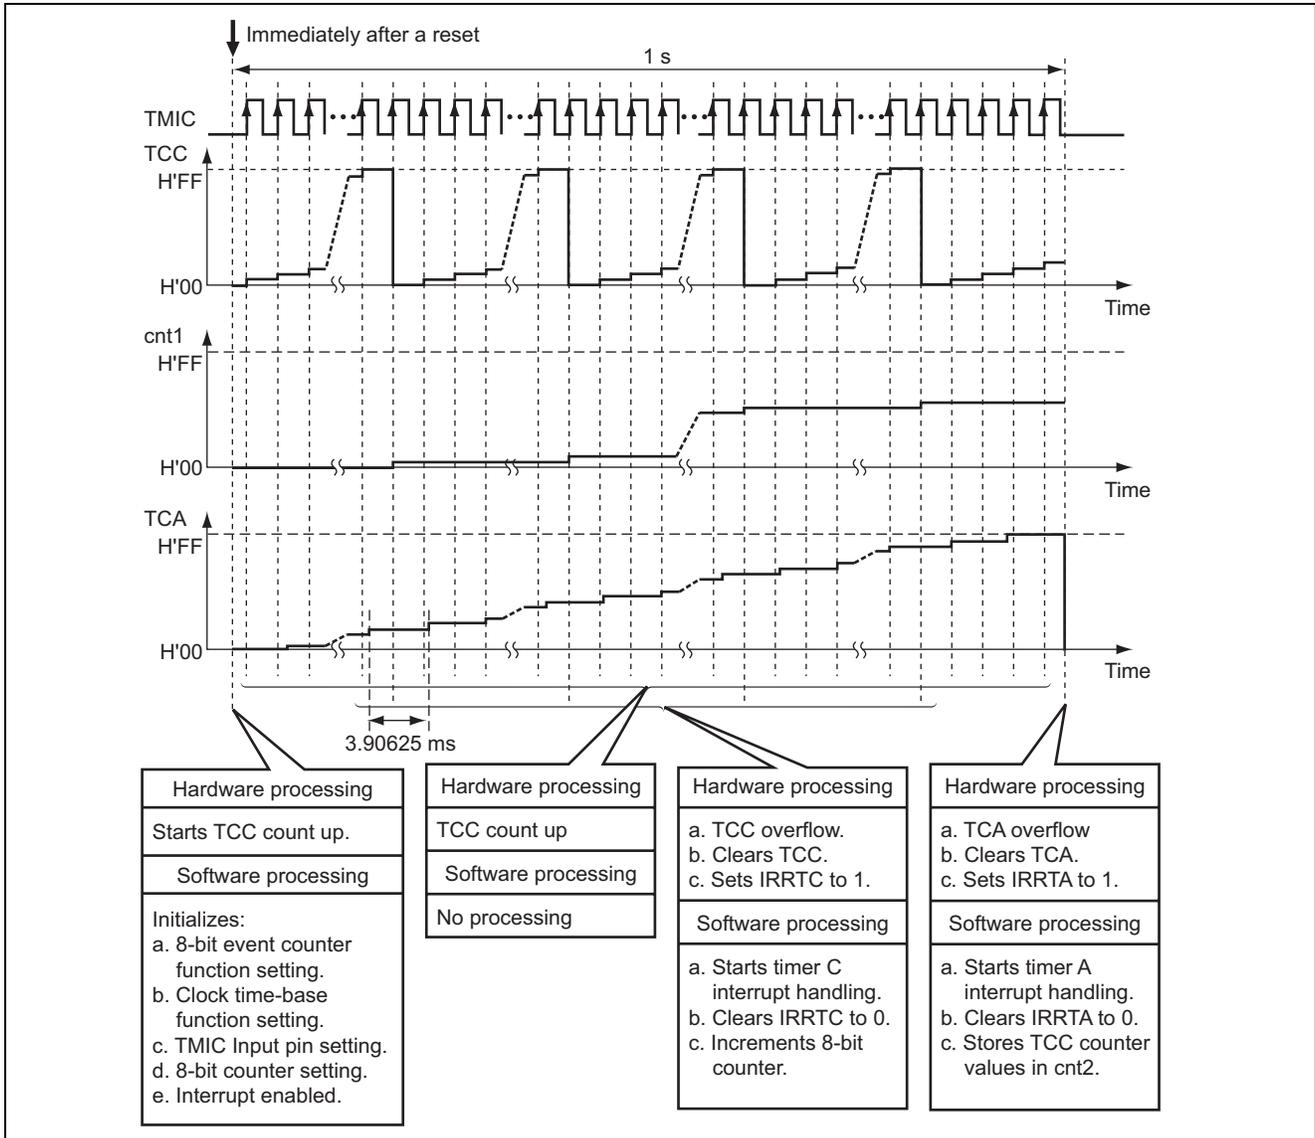

Figure 2 Operation Principle of Frequency Measurement by Timer C 8-bit Event Counter Function
1. Figure 2 illustrates the principle of operation of this sample task. As shown in figure 2, the pulse frequency is measured using Timer C 8-bit event counter function by hardware processing and software processing.